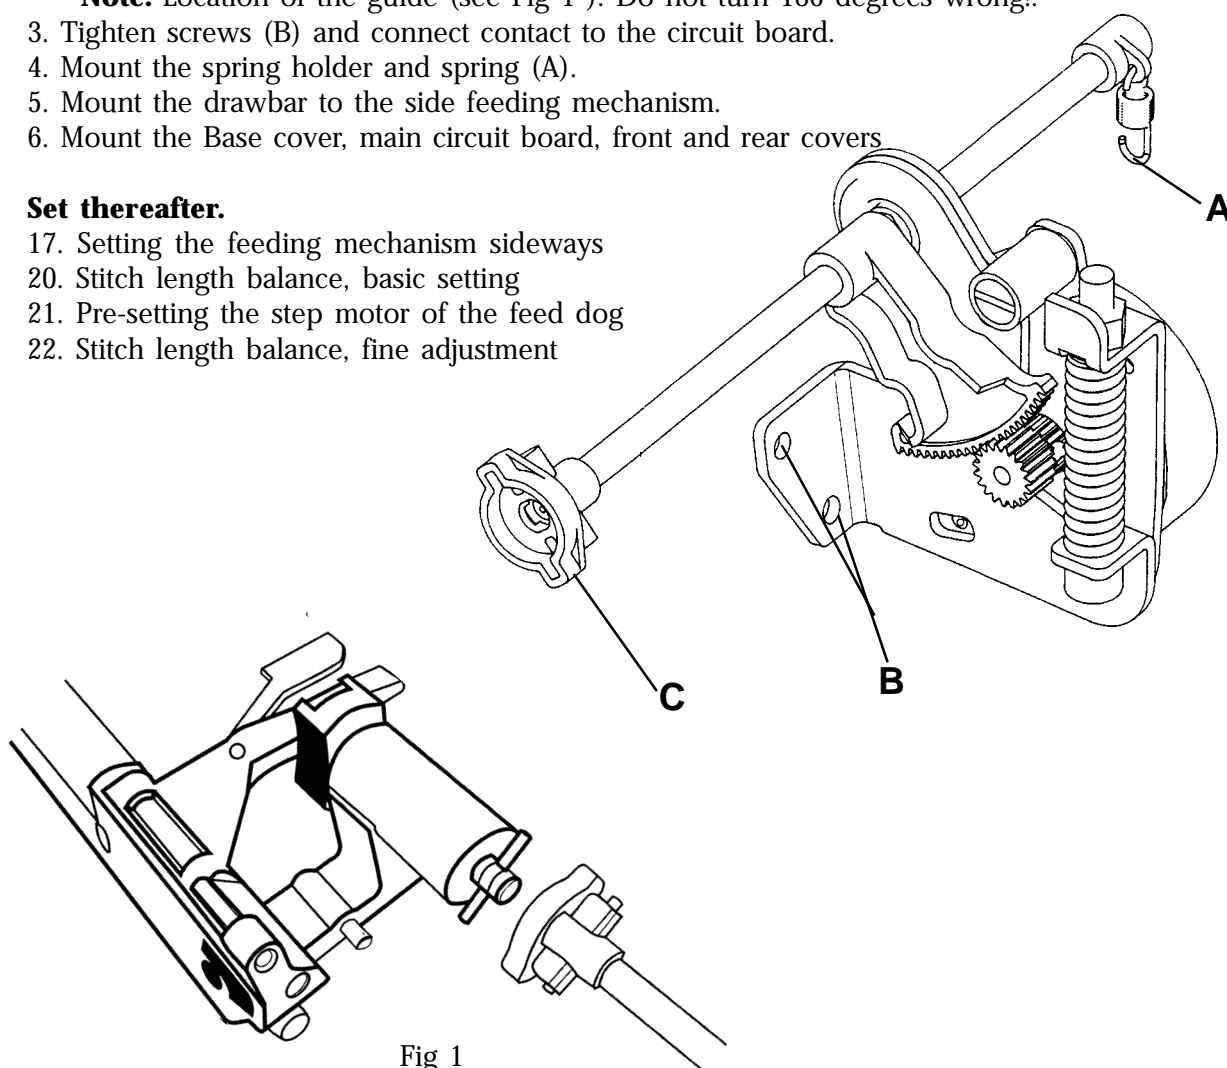

Fig 1
1. Press the feed dog and the feed dog frame against a straight sureface. See Fig 1.
2. Tighten the 2 screws (A).
Note! Location of the guide (see Fig 1). Do not turn 180 degrees wrong!